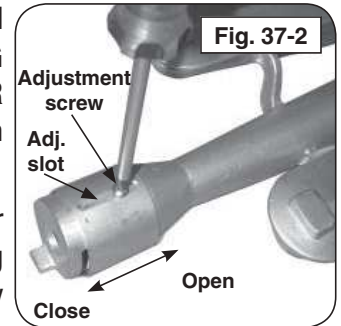

Fig. 37-2
2. Adjust the air shutter opening by loosening the adjustment screw with a screwdriver, then sliding the air shutter backward or forward to open or close the air shutter opening (see Fig. 37-2).